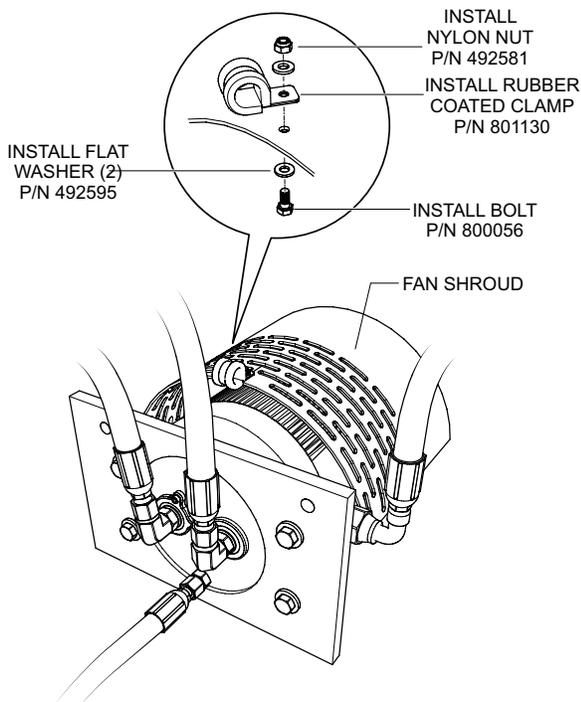

Figure 19. Installing Fuel Tank Vapor Hose Clamp
2. Secure rubber coated clamp (P/N 801130) to **fan shroud** (Figure 19) using the supplied hardware, bolt (P/N 800056), 2 washers (P/N 492595) and nut (P/N 492581).